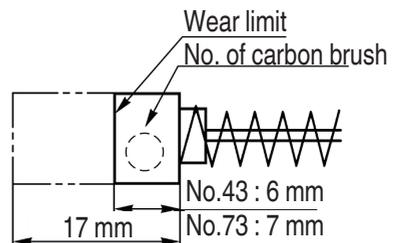

Fig. 19
4. Inspecting the carbon brushes: (**Fig. 19**)